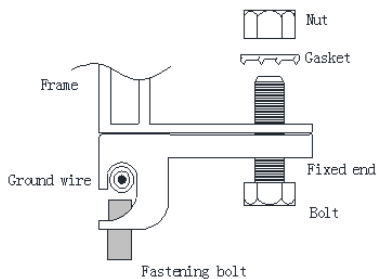

Figure 17: Grounding the aluminum frame with a copper wire
- Use the marked 5.5 mm grounding holes to ground the anodized aluminum frame. Use an M5 nut, an M5 gasket, and an M5 bolt, fastening bolt and a ground wire. All nuts, bolts, and gasket should be made of stainless steel. See *Figure 17*.